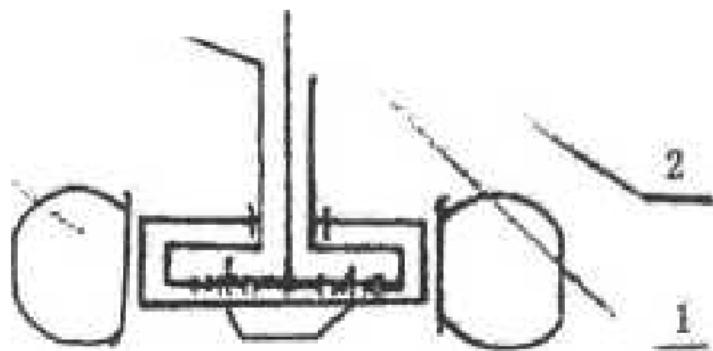

Figure 2-9: Illustration of Drive Axle
Operating principle (as shown in Figure 2-9): via the driving spiral gear (7), the drive shaft (8) drives the driven bevel gear (6) and thus the torque is transmitted to the driven bevel gear. Via the left and right diff cases (1) assembled with the driven bevel gear, the torque is transmitted to the cross axle(2) and then, via the four differential bevel gears (3) installed on the cross axle, to the left and right cone-shaped semi axis gears (4), If the left and right wheels have the same speed (i.e., the ground has the equal drag torque on the axis of the semi axis), the no relative movement will not occur between the semi axis gears of the differential gear, as if the left and right driving wheels are linked together with one single axle. But; when the vehicle makes a turn or travels on the uneven road and the different speeds are required for the left and right wheels (i.e., when the ground has different drag torques on the axis of the left and right semi axis, the difference is greater than the torque required for the differential gear), the differential gear rotates around its own axis so that the left and right wheels have different speeds for a differential role. Via the semi axis (5), the power is transmitted to the wheel (9) to keep the loader to travel.